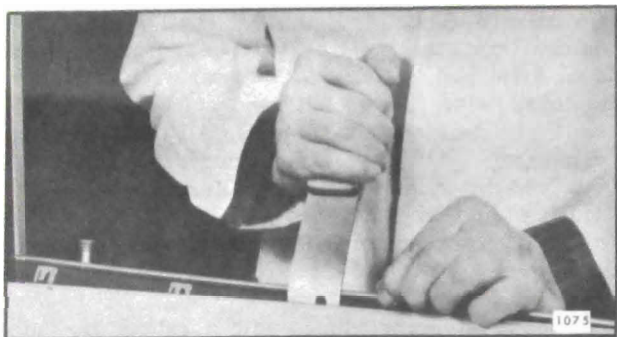

Fig. 6-15—Glass Run Channel Inner - Outer Strip Assembly Removal - "A-X-Z" Styles
4. Insert a flat-bladed tool (slotted to fit over tang of clip) between door panel return flange and strip assembly at clip locations (Fig. 6-15). Carefully pry clips from slots in panel and remove strip assembly.